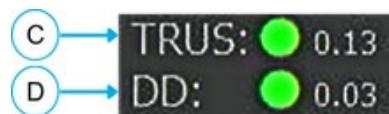

Figure 12-4: Physician User Interface - NGS Sensor Error Values
5. Verify the TRUS (**C**) and DD (**D**) NGS Sensor error values on the PUI are less than 0.20 (ideally <0.10), and the indicator lights are green (**Figure 12-4**).